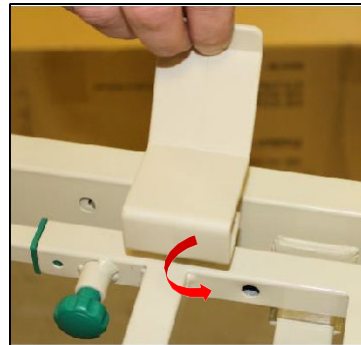

Figure 11: Mattress retaining clip
14. Attach the 4 mattress retaining clips over the hole on the bed frame (*figure 11*).